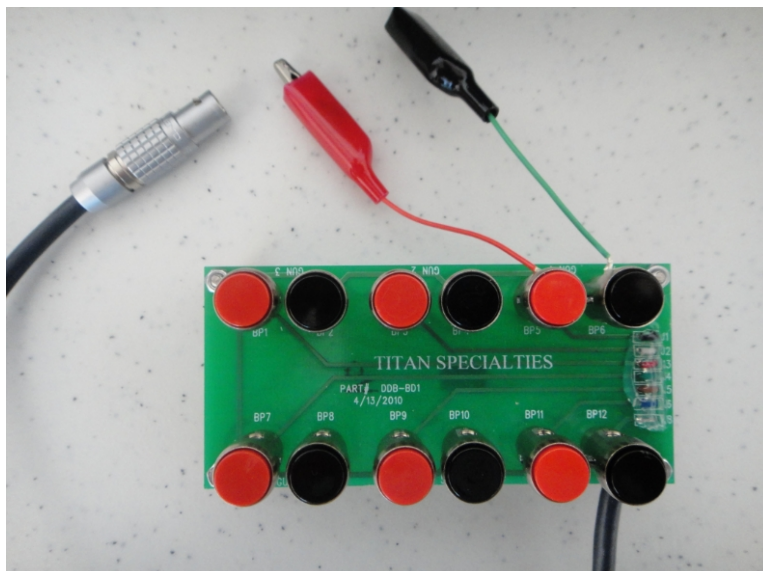

Figure 3
- **Wireline Switch Simulator Panel External Test Block** – Shown in Figure 3 is a connector block with a cable that plugs into the Perf Switch Simulator, Deto I/O interface. This assembly provides the user a means to connect resistors to each of the 6 Perf Switches inside of the Perf Switch Simulator for the purpose of simulating a detonator firing. This concept can be used for demonstration, training and troubleshooting wireline problems on a job site.